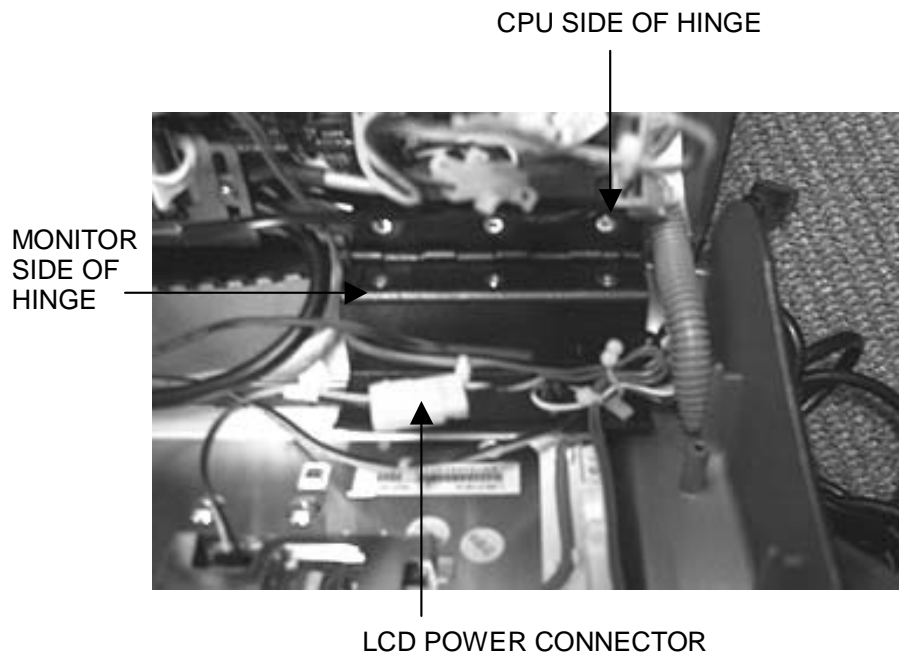

FIGURE 2 - CLOSEUP OF MONITOR HINGE
7. Disconnect the LCD power connector (black and yellow wires). See Figure 2.
10. Loosen the 6 screws (3 per hinge) on the monitor side of the hinges in order to raise the hinges and allow room to remove the monitor. See Figure 2.
3. Carefully slide the new monitor into the bezel, making certain that the white edge of the monitor and the monitor wire connections are facing the bottom of the bezel. Ensure that the monitor is properly centered, then tighten the hinge screws. See Figure 2.
8. Connect the LCD power connector (black and yellow wires). See Figure 2.